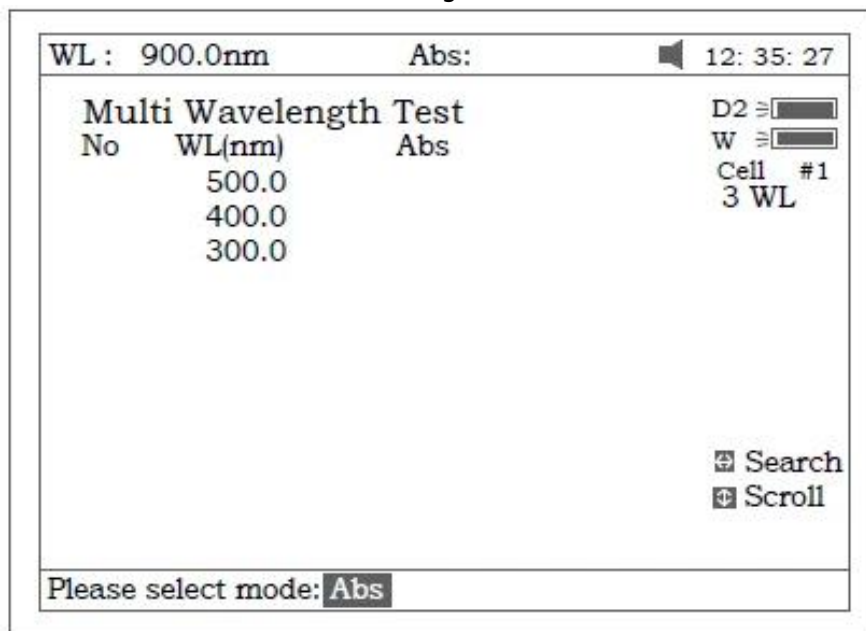

Figure 70
2. Press **【F2】** to select mode (Fig 70).